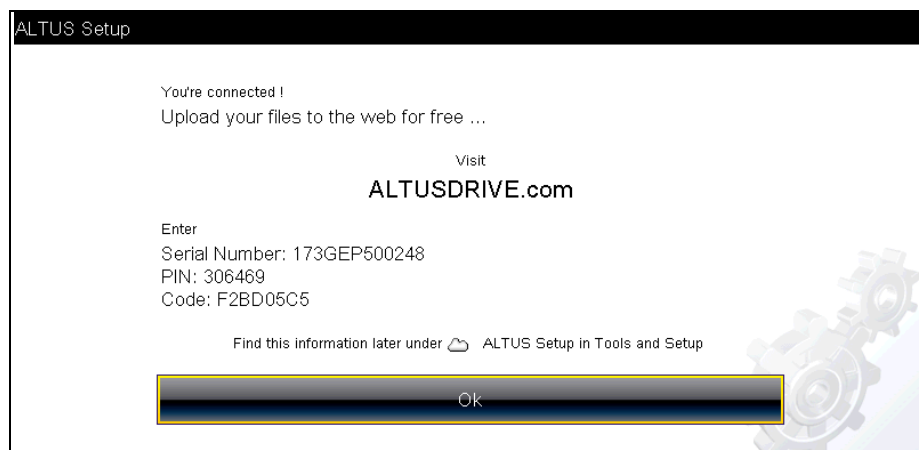
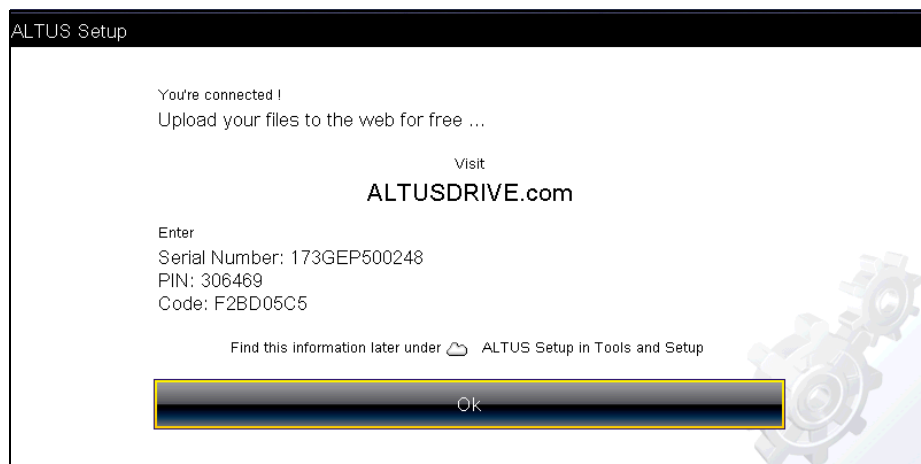
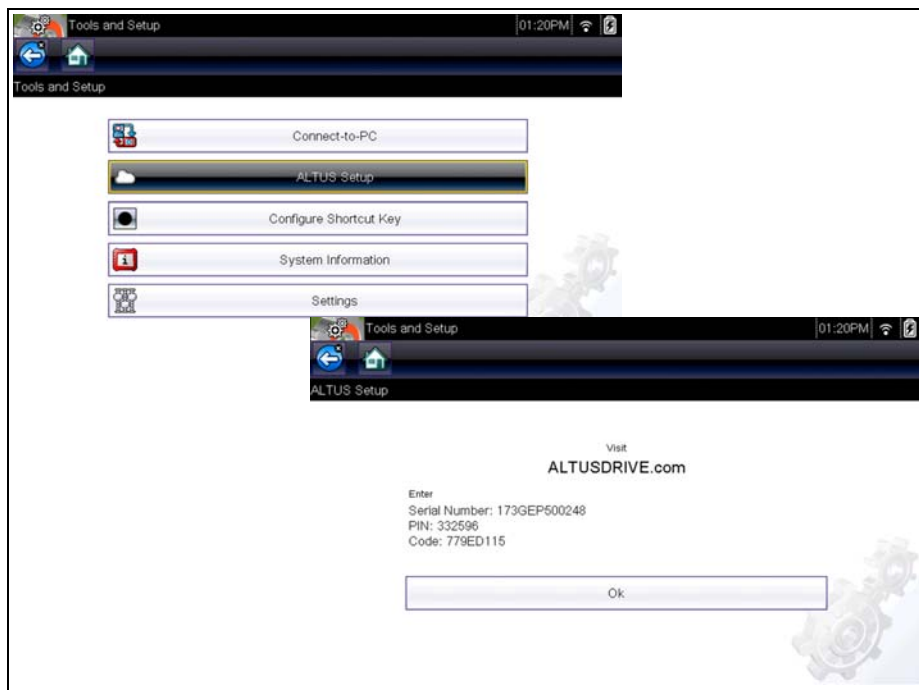

Figure 13-1
Figure 13-2
Figure 13-3
2. Write down the Serial Number, PIN and Code that are displayed when the device connects to the Wi-Fi network (Figure 13-1), or leave the screen displayed. Registration information can also be found in the Tools menu, see ALTUS Setup Information Screen, on page 177,.
The PIN and Code numbers will change each time you view the ALTUS Setup screens (Figure 13-1 and Figure 13-3). This is normal, any displayed set of PIN and Code numbers may be used to register on ALTUSDRIVE.com.
2. Write down the Serial Number, PIN and Code that are displayed when the device connects to the Wi-Fi network (Figure 13-2), or leave the screen displayed. Registration information can also be found in the Tools menu, see ALTUS Setup Information Screen, on page 177,.
The PIN and Code numbers will change each time you view the ALTUS Setup screens (Figure 13-2 and Figure 13-3). This is normal, any displayed set of PIN and Code numbers may be used to register on ALTUSDRIVE.com.
From the Home screen, selecting **Tools > ALTUS Setup** (Figure 13-3) allows you view the diagnostic tool serial number, PIN and Code needed to register on ALTUSDRIVE.com.
The PIN and Code numbers will change each time you view the ALTUS Setup screens (Figure 13-3 and Figure 13-1). This is normal, any displayed set of PIN and Code numbers may be used to register on ALTUSDRIVE.com.